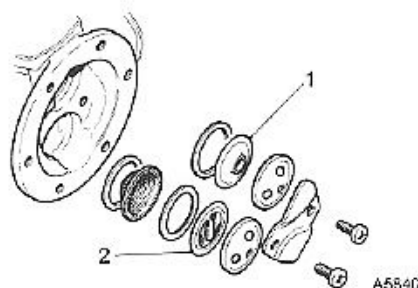

Fig 9. The valve assembly, type AUF300/AZX1300 pump.
- 17 In this range of pumps the valve assemblies are retained internally in the body by a clamp plate secured with self-tapping screws (see Fig. 9). The inlet valve recess in the body is deeper than the outlet recess to allow for the filter and the extra washer.